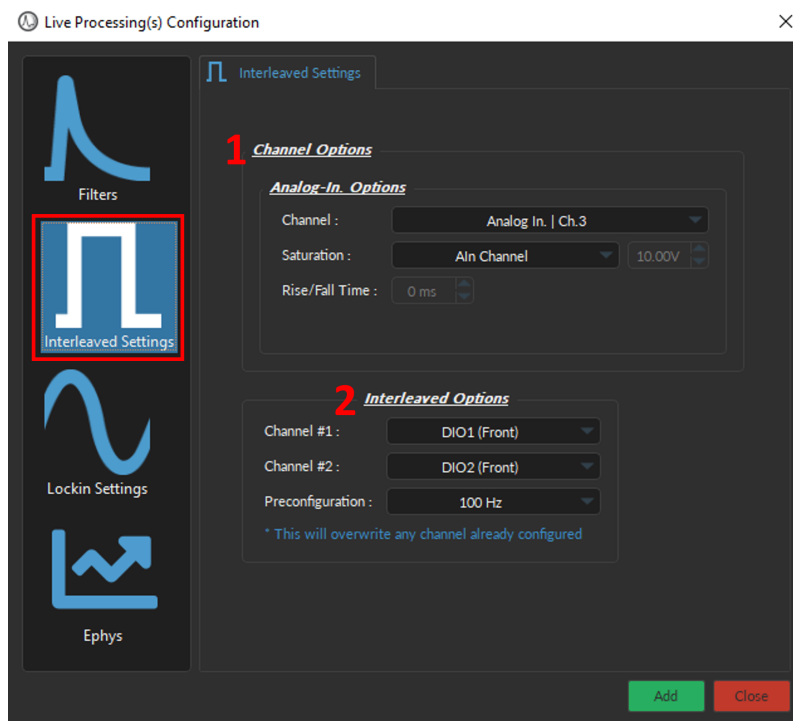

Figure 11.72: Live Processing, Interleaved
1. The **Channel Options** (Fig. 11.72, 1) contains the following parameters:
- 2. The **Interleaved Options** (Fig. 11.72, 2) contains the following parameters: